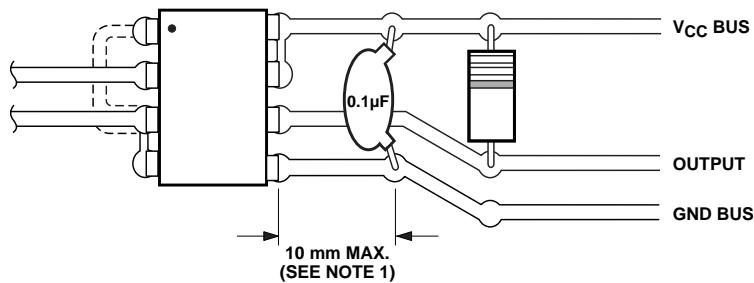

Figure 15. Recommended printed circuit board layout.
1. Bypassing of the power supply line is required with a  $0.1 \text{ }\mu\text{F}$  ceramic disc capacitor adjacent to each optocoupler, as illustrated in Figure 15. Total lead length between both ends of the capacitor and the isolator pins should not exceed 10 mm.
assumes that good board layout procedures were followed to reduce the effective input/ output capacitance as shown in Figure 15.